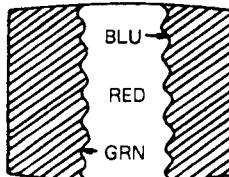

Fig. 3-2.
- 5. Adjust purity control to center vertical red band as shown in Fig. 3-2.